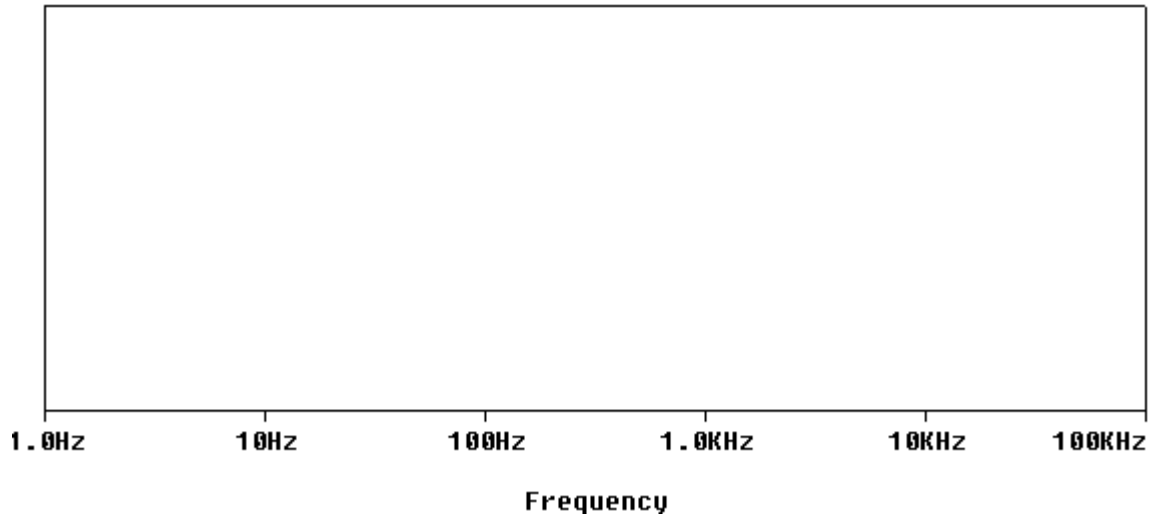
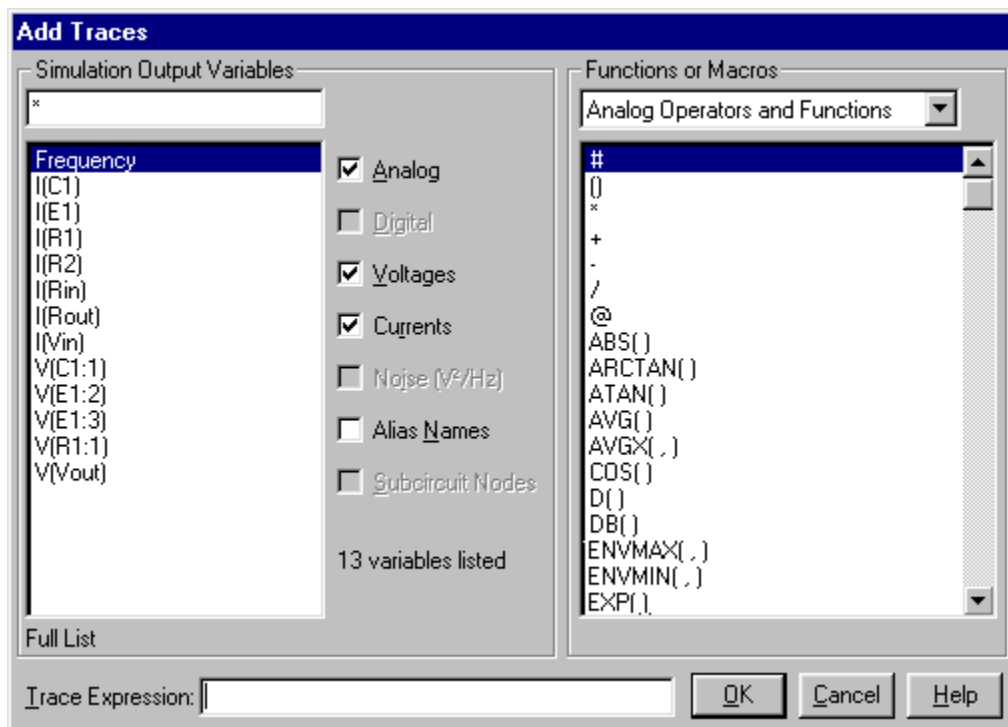
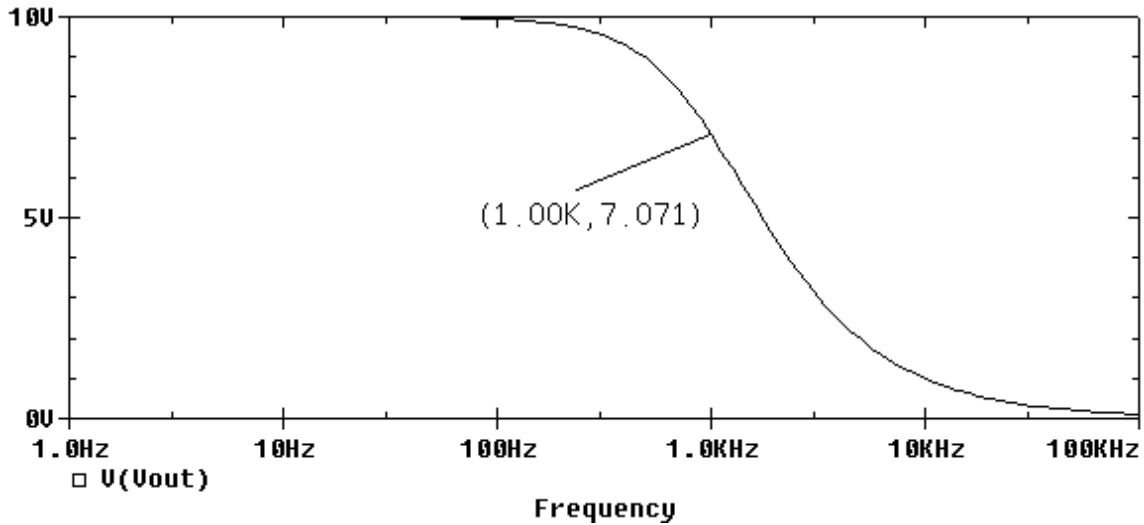
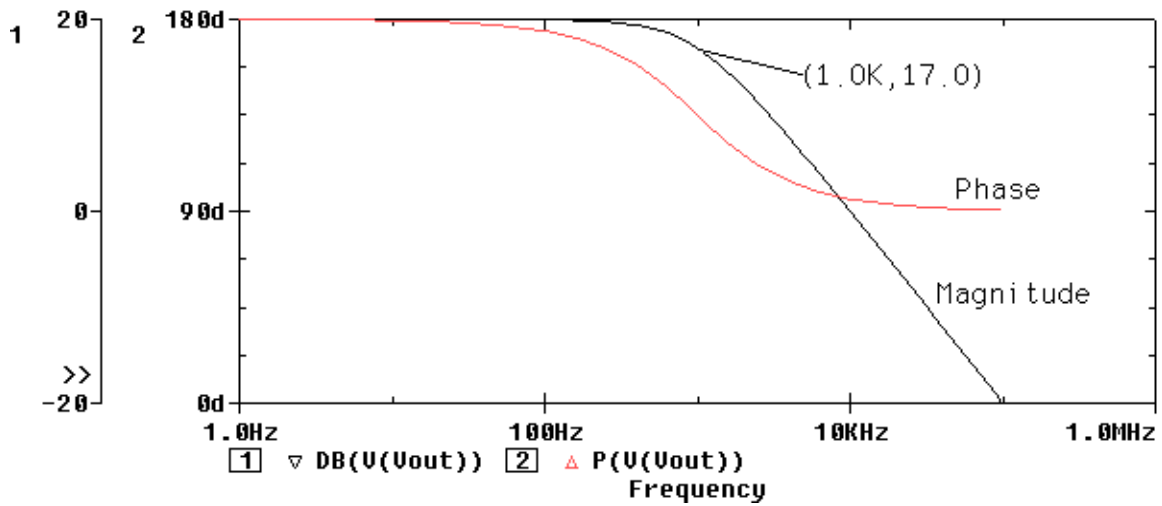

FIGURE 42
FIGURE 43
FIGURE 44
FIGURE 46
Under the Analysis menu, select Simulate and, if the netlist is good, we should eventually see the PROBE window in Figure 42. Note that the x-axis is already frequency ranging from 1 Hz to 100 kHz on a log scale. Now we will plot  $V_{out}$ . Since all voltages and currents are phasors with magnitude and phase, we'll discuss how to get *Schematics* to plot both components. First, we'll plot magnitude. Select Add under the Trace menu. When the Add Trace dialog box in Figure 43 appears, select type click OK. You should see Figure 44. The gain is indeed frequency dependent! The gain? We've plotted  $V_{out}$  not  $V_{out}/V_S$ . Yes, but in the  $V_S$  attributes, we chose AC = 1. This means  $V_{in} = 1\angle 0^\circ$  V. So, the gain is  $V_{out}/V_S = V_{out}$ !
Notice also that the gain plot in Figure 44 is nonlinear. This makes extracting information from the plot more difficult. For example, at what rate is the gain decreasing? Well, once we go beyond about 100 Hz, the gain does decrease. However, the rate of decrease, or the slope, is not constant. A way to linearize frequency domain graphics is to plot the gain in decibels, or dB. The dB equivalent of a voltage or current gain is
We invoke the dB in PSpice by adding the trace **DB(Vout)** on the Trace Command line. You'll find the DB operator on the righthand side of the Add Traces window in Figure 44. We may as well remove the magnitude trace. To do this, click on the text
**Delete** key. The PROBE window should look like Figure 46 (I added the labels). This is the Bode Plot! Notice also that the dc gain is + 20 dB. Given that its magnitude in Figure 43 was 10, and given the expression for dB in terms of gain, how